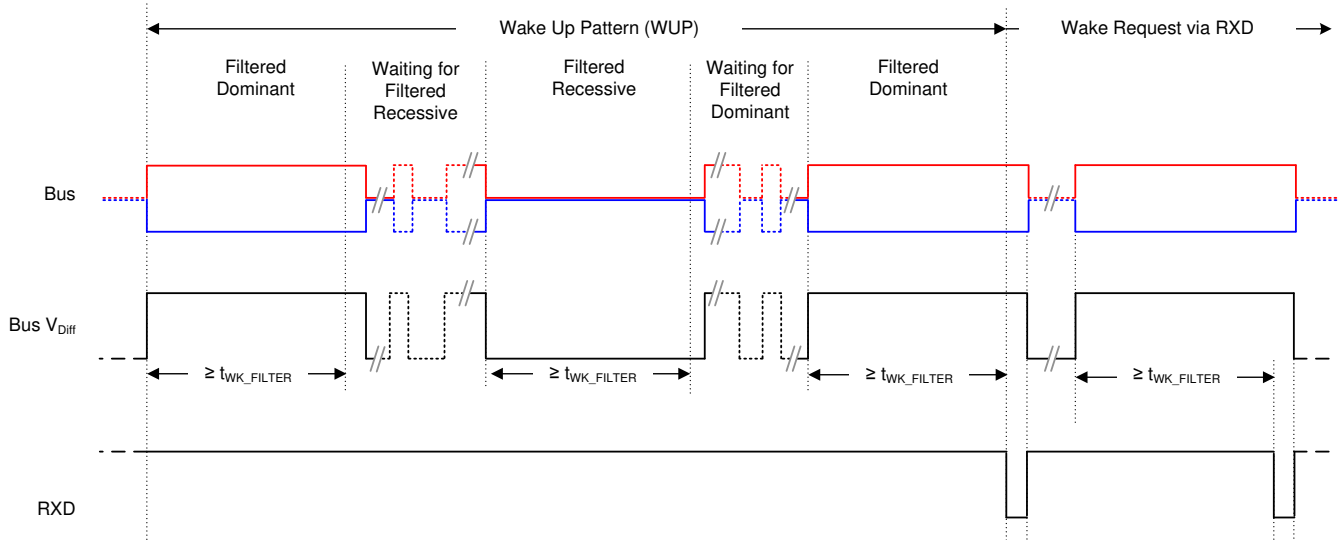

图 6-5. Wake Up Pattern (WUP) and Bus Wake via RXD Request (BWRR)
(1) Standby Mode RXD behavior: See 图 6-5.
This is the low power mode of the device. The CAN driver and main receiver are turned off and bi-directional CAN communication is not possible. The low power receiver and bus monitor are enabled to allow for RXD Wake Requests via the CAN bus. A wake up request will be output to RXD (driven low) as shown in 图 6-5. The local CAN protocol microprocessor should monitor RXD for transitions (high to low) and reactivate the device to normal mode based on the RXD Wake Request. The CAN bus pins are weakly pulled to GND during this mode, see 图 6-4.
See 图 6-5 for the timing diagram of the WUP. The pattern, t_{WK_FILTER} time used for the WUP and BWRR prevent noise and bus stuck dominant faults from causing false wake requests. If the device is switched to normal mode, or an under voltage event occurs on V_{CC} the BWRR will be lost.